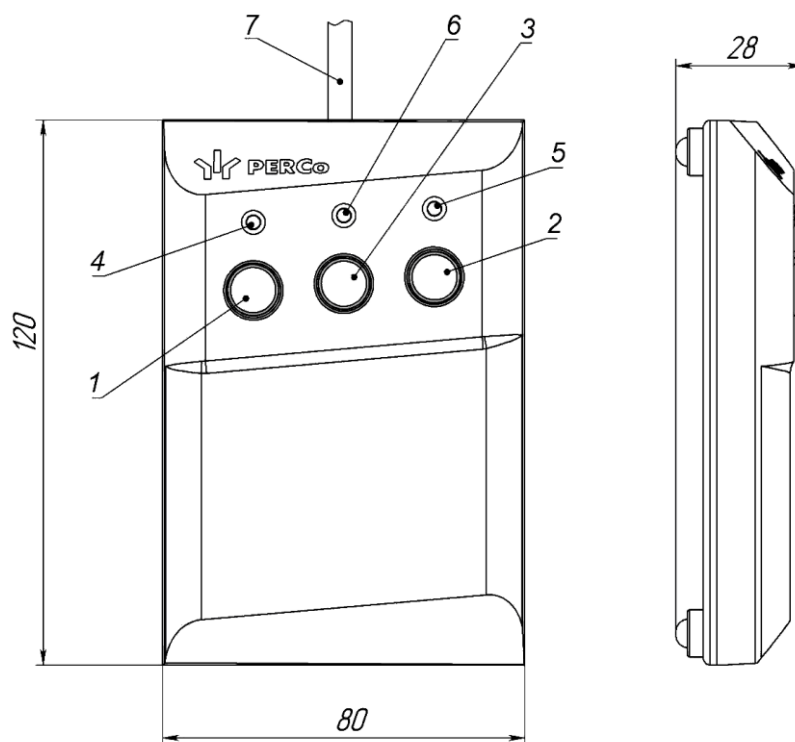

Figure 4 – RC panel overall view
The RC panel (12) is designed as a small desktop device with a shock-proof ABS plastic case and is intended for setting and indicating operating modes when the turnstile is operated manually. The RC panel overall view is shown in Fig. 4.